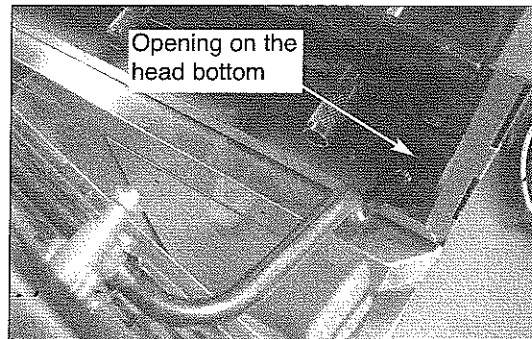

Fig 17
19. Lift the front face, let the right end of the manifold go through the opening on the grill head bottom. (See Fig. 17)